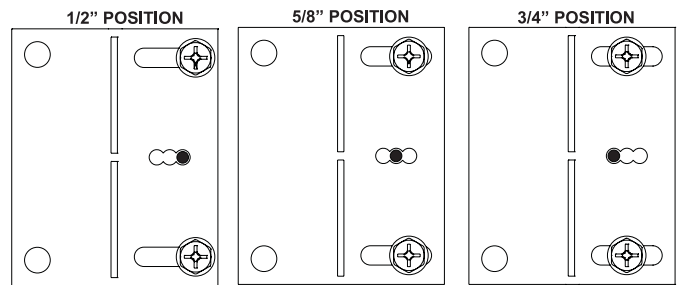

Figure 6
- Measure from face of fireplace to face of drywall strip to determine final depth and adjust nailing flanges as shown in **Figure 6.**